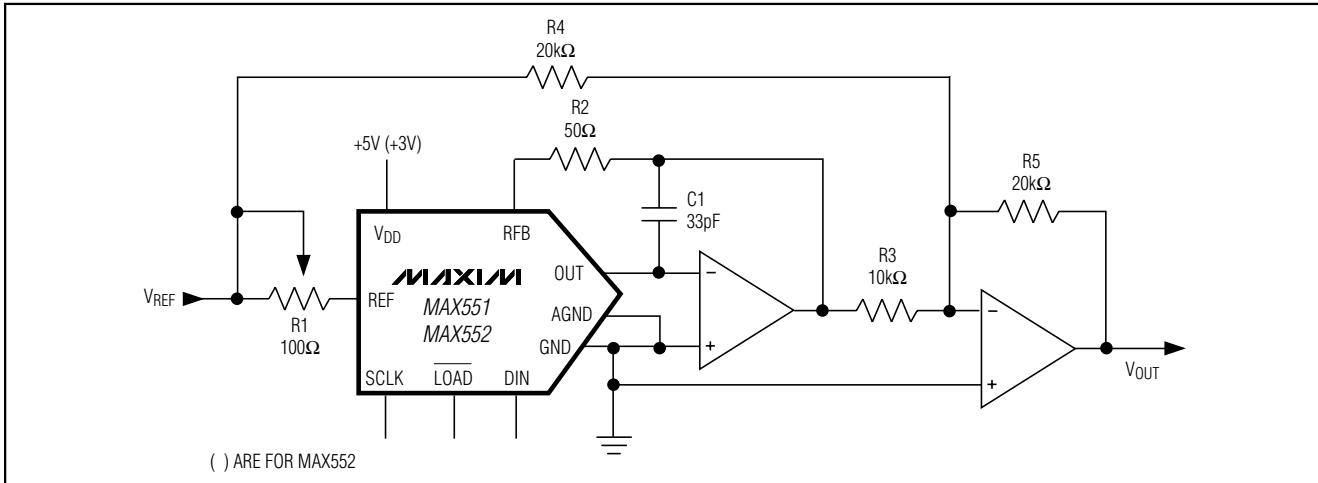

Figure 4. Bipolar Operation
**Table 2. Offset Binary-Code Table for Circuit of Figure 4**
Figure 4 shows the MAX551/MAX552 operating in bipolar (or 4-quadrant multiplying) mode. Matched resistors R3, R4, and R5 must be of the same material (preferably metal film or wire-wound) for good temperature-tracking characteristics (<15ppm/°C) and should match to 0.01% for 12-bit performance. The output code is offset binary, as listed in Table 2.